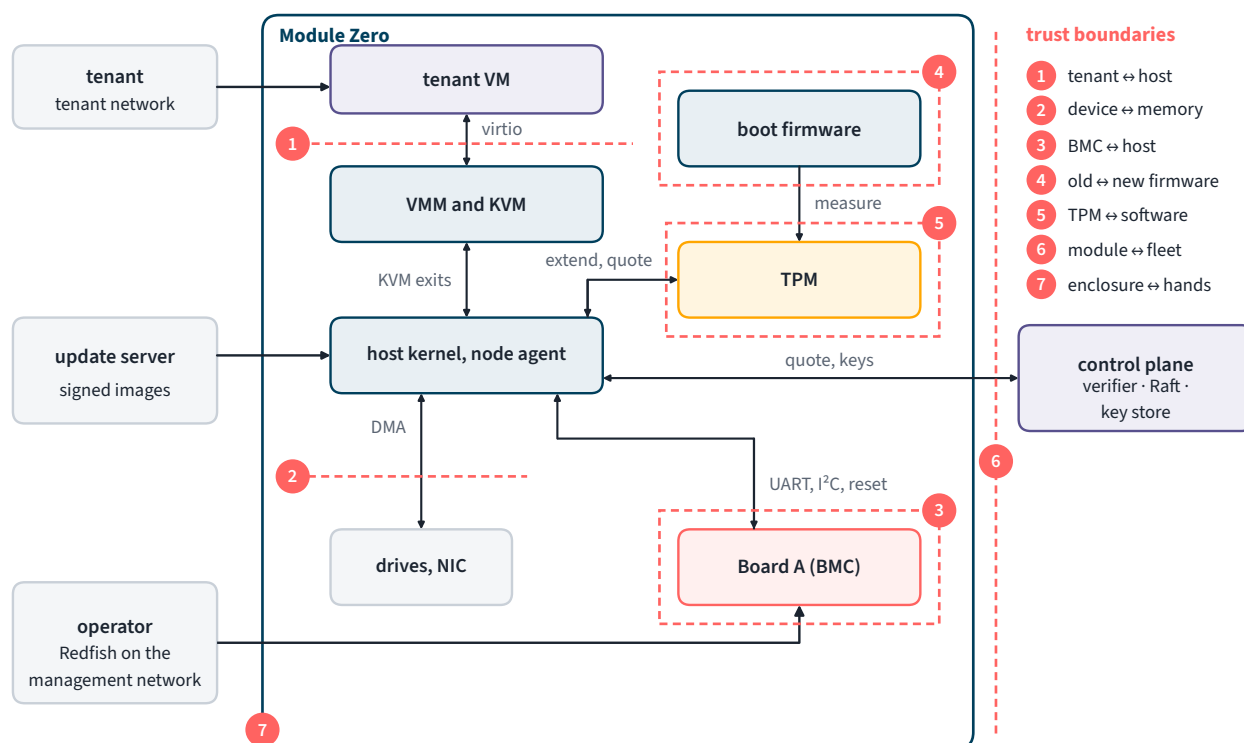

Figure 4.6.1. Module Zero's data flows and trust boundaries. Lab 4.6.2 applies STRIDE at each numbered boundary.
1. Draw the full data-flow diagram, extending Figure 4.6.1 with Modulus and every network, and mark each trust boundary.